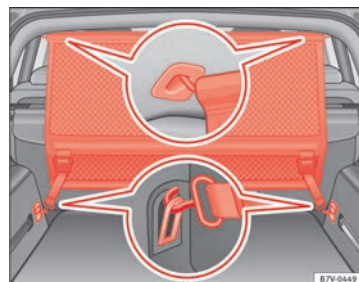

Fig. 94 In the luggage compartment: Install the net partition behind the second row of seats
- Hook in the net partition on the left-hand side roof support ⇒ Fig. 94 ①. To do this, guide the rod from up to down.
- Secure the net partition hooks into the straps in the front of the luggage compartment ② then tighten them.